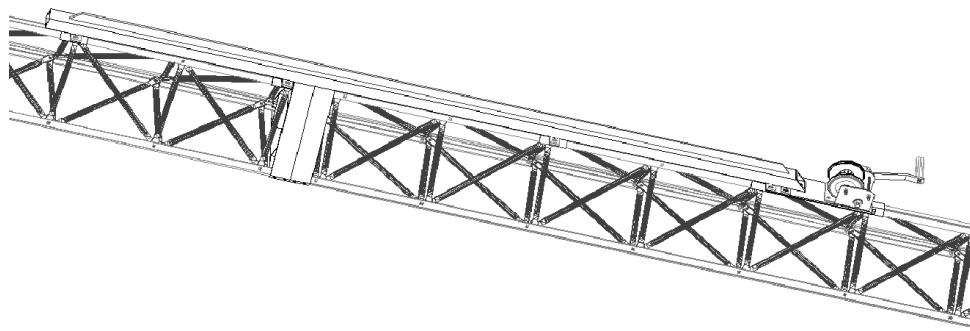

Figure 6 – Lever Pole Mounted on Tower Sections
8. Attach the lever pole (item 11) via the top two bracket tabs onto the middle tower section only using $3/8'' \times 1\ 1/4''$ hex bolts and hardware (items 23, 24, 25). Ensure that the holes in all three lever mounting brackets (items 7, 8) and the winch bracket (item 14) are aligned with the lever pole mounting tabs so it can be joined properly once the tower is standing. See Figure 6.